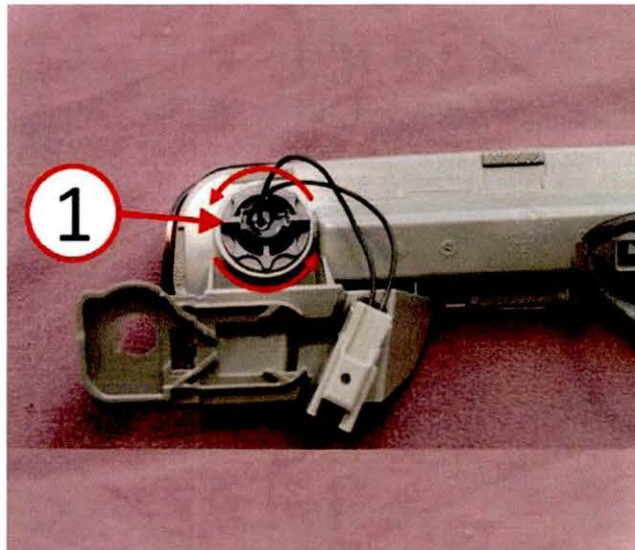

**Fig. 2 CHMSL Seal**
3. Inspect the CHMSL to decklid seal for any damage and/or deterioration. Replace if necessary to prevent water intrusion (Fig. 2).